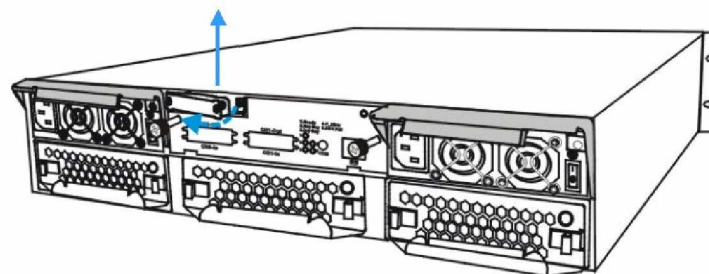

Figure 2-3: Removing the BBU Slot Dummy Plate
- Step 2. Once the retention screws are loosened, wedge a screwdriver between the back of the dummy plate and the interior wall of the subsystem enclosure. Gently lever the dummy plate out of the enclosure. (See **Figure 2-3**)